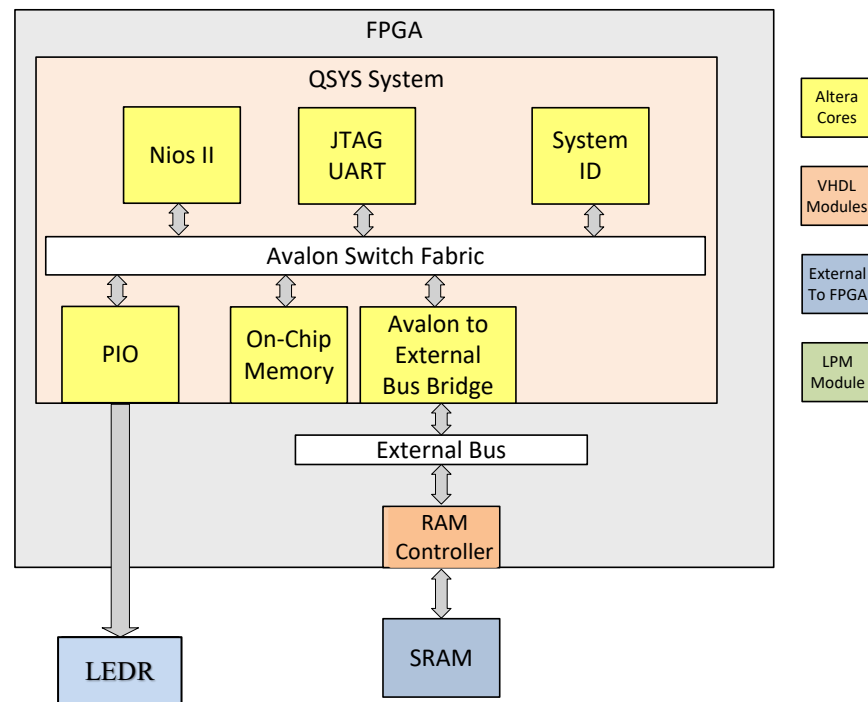
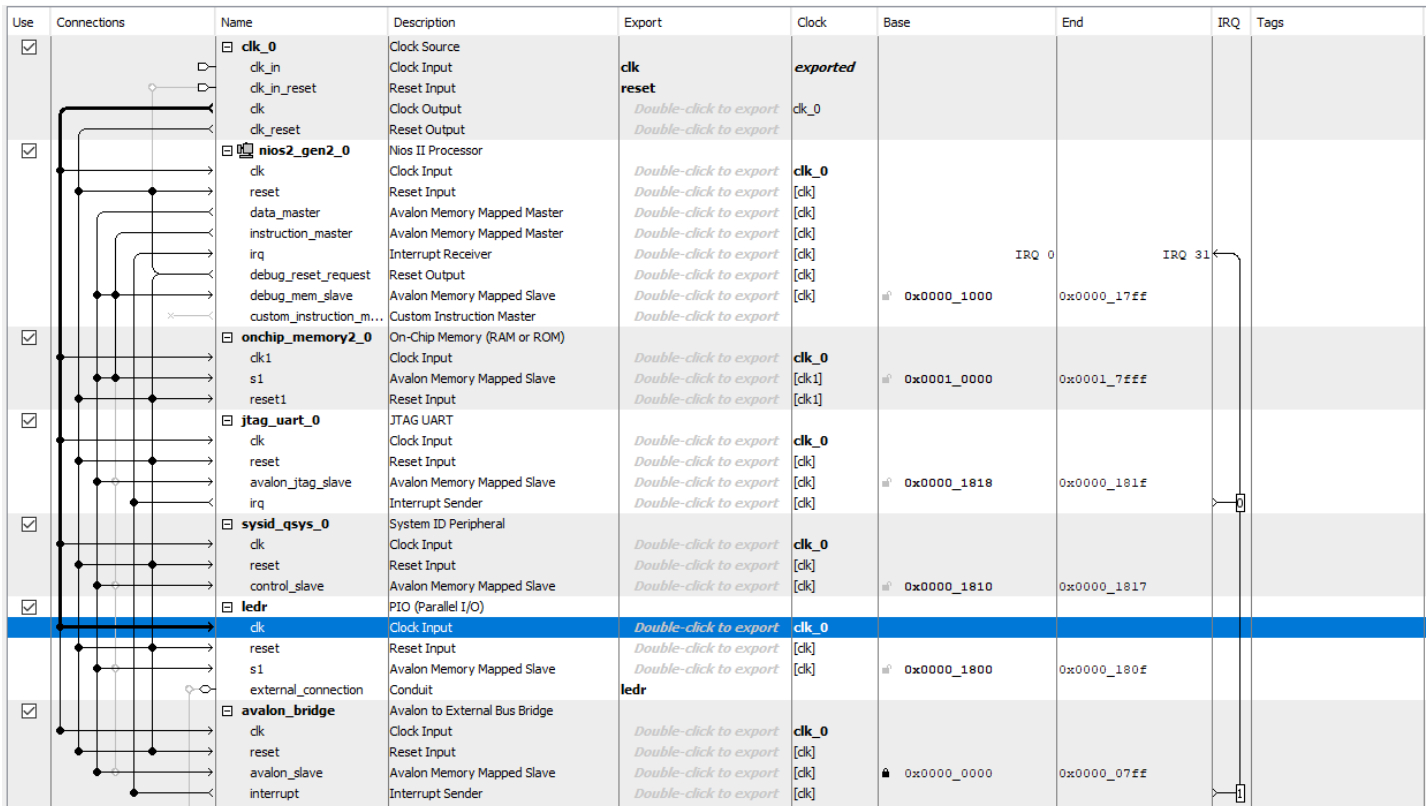

Figure 2: High-level Block Diagram of Design
Figure 3: Nios-II System in QSYS
Figure 2 indicates the system that we will design and implement. The part of the system consisting of a Nios II/e processor, a JTAG UART, an on-chip memory block and an Avalon to External Bus Bridge can be generated using QSYS. This should produce the system given in Figure 3. The slave peripheral will be a VHDL module that functions as a RAM controller to interface with an Altera LPM RAM module. The Avalon to External Bus Bridge connects the previously discussed external bus to the Avalon Switch Fabric of the Nios II system. The switch fabric is the main interconnection network for peripherals in a system generated by QSYS.
9. You should now have the system similar to Figure 3.